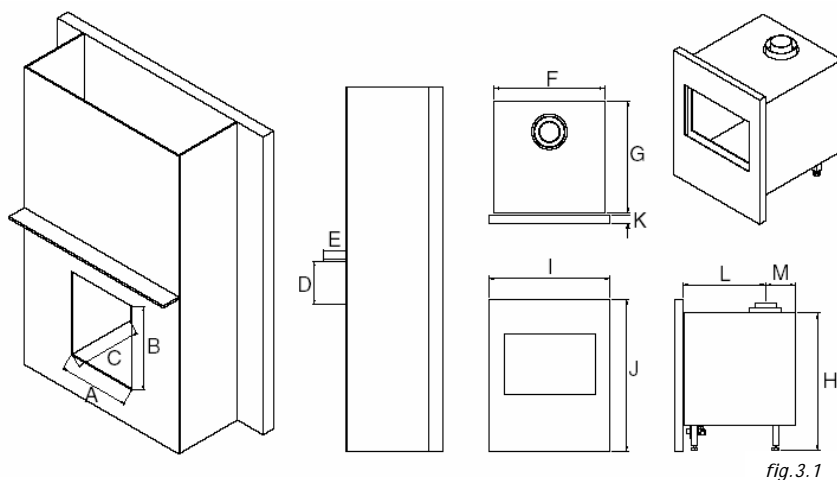

fig. 3.1
In a non-combustible fireplace or builders opening. This could be either an existing builders opening or a new made prefab builders opening. For the measurements, see figure 3.1 and index.
- For a shelf up to 150 mm deep - Minimum height = 350 mm (fig. 3.1).